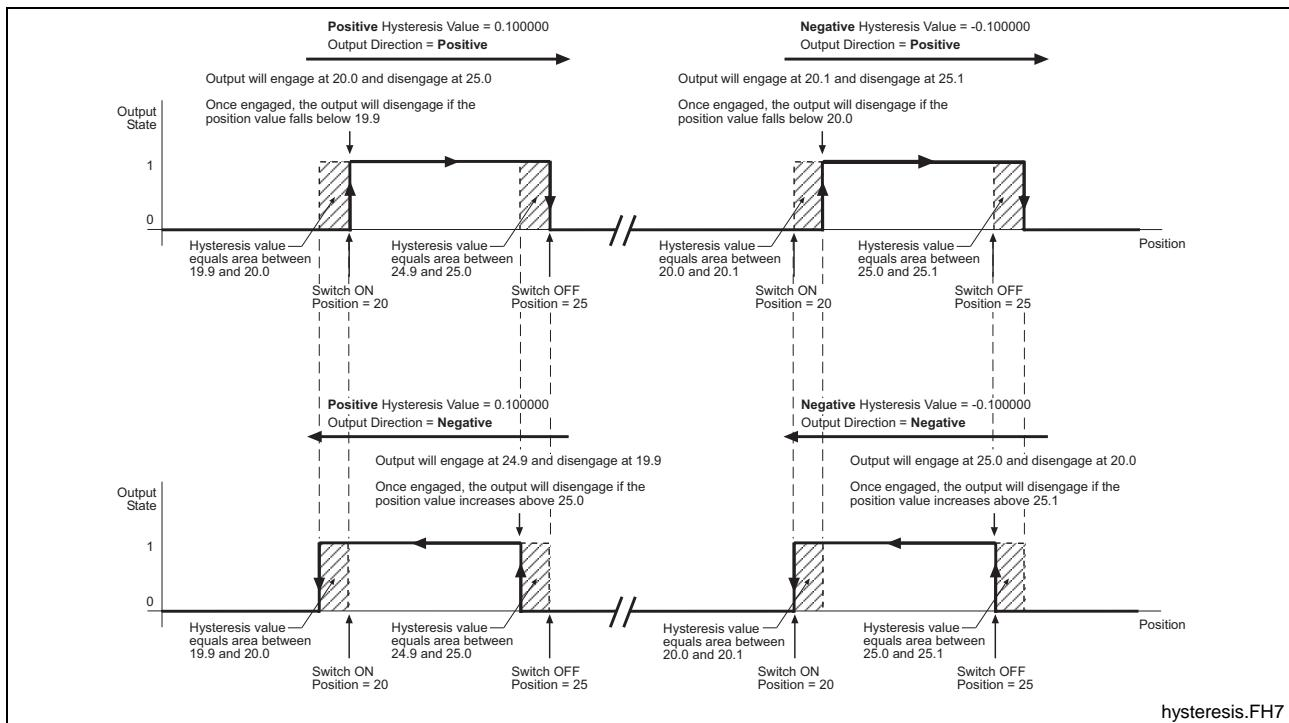

Fig. 4-23: Positive and Negative Hysteresis Value Reaction
- **Hysteresis (C-0-2936)** - This value can be either *positive or negative* and sets the tolerance distance used by the control to determine whether or not a switch is in position. This is used to prevent dithering of the output. The value entered for the hysteresis will affect all switches in the *Output Switches* section. A PLS Master that is either a Real Master or a Drive uses a feedback device to output a positional value. Due to small positional value corrections from the drive trying to hold or maintain a position, the feedback output data will experience small positional changes. The illustration in Fig. 4-23 shows the different reactions for positive and negative hysteresis values.